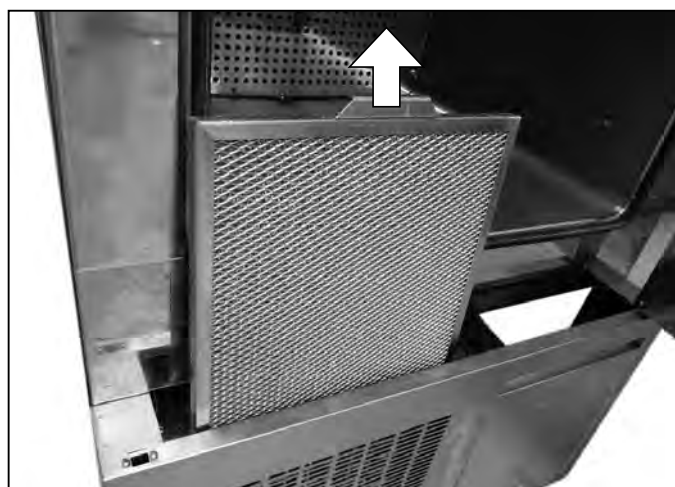

Fig. 42 Pulling out air filter
3. Pull out the filter by the handle on the top (Fig. 42).